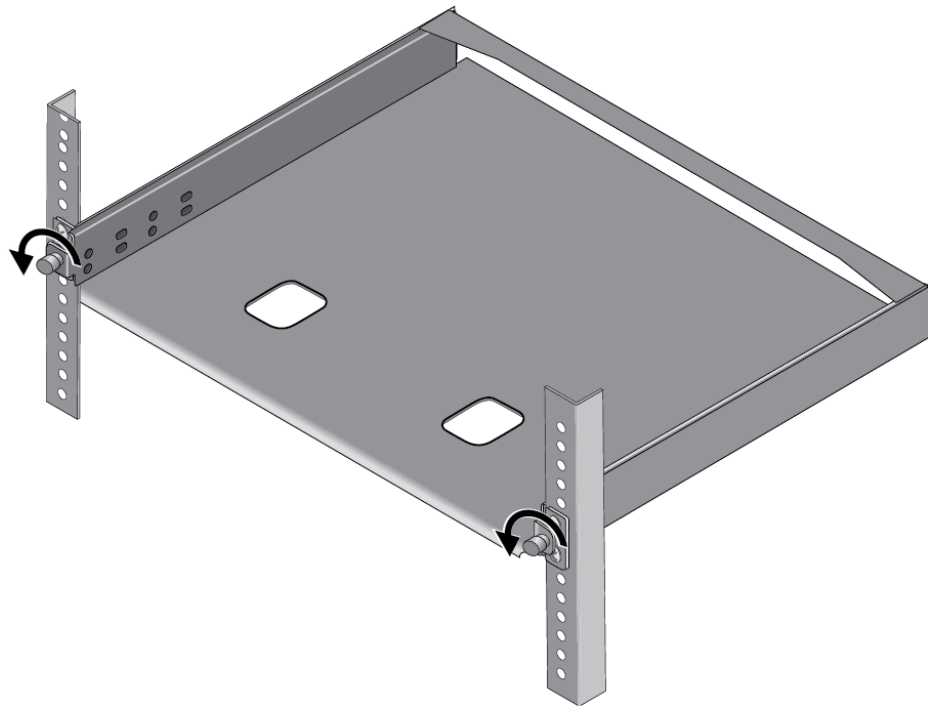

Figure 44. Loosening the Two Thumbscrews on the Front of the RKMT-J15 Bracket
2. Loosen the two thumbscrews on the front of the bracket. Refer to Figure 44.